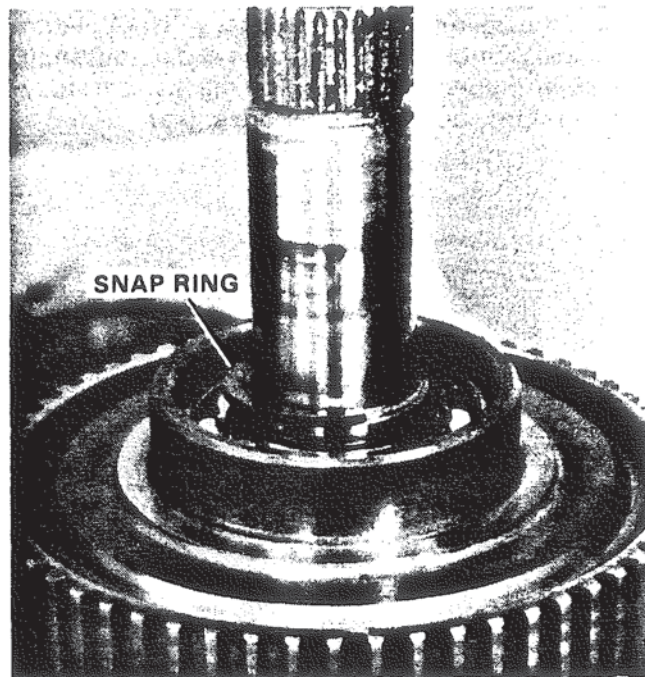

Figure 66. Installing External Snap Ring.
4. Install external snap ring onto drive gear. Figure 66.